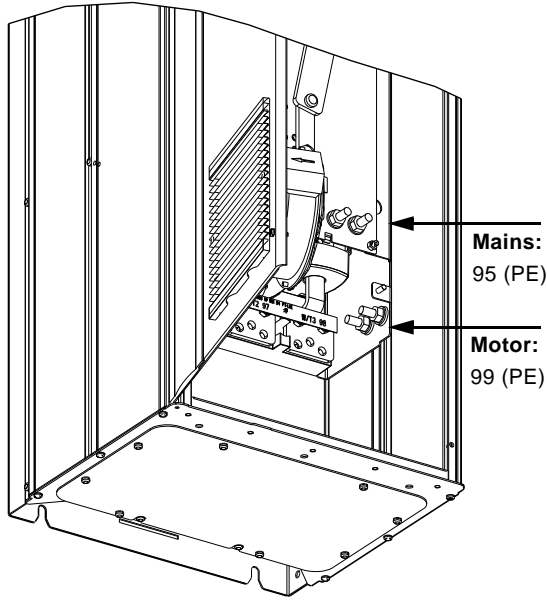

Fig. 14 Ground connection
1. Connect the ground conductor to terminal 99 (PE). See fig. 14.
1. Connect the ground conductor to terminal 95 (PE). See fig. 14.
Take the following terminal positions into consideration when you design the cable connection. See figs 14 to 16.